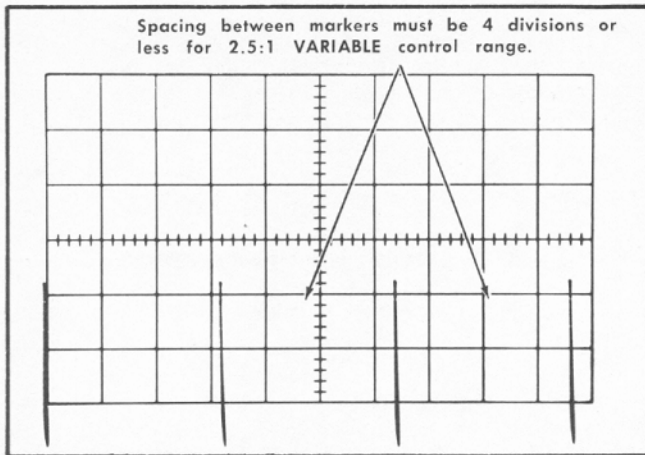

Fig. 6-50. Typical crt display when checking VARIABLE control range.
- Check—Crt display for 4-division maximum spacing between markers (see Fig. 6-50). UNCAL A OR B light must be on when A VARIABLE control is not in CAL position.
- e. Check—Crt display for 4-division maximum spacing between markers (see Fig. 6-50). UNCAL A OR B light must be on when B VARIABLE control is not in CAL position.